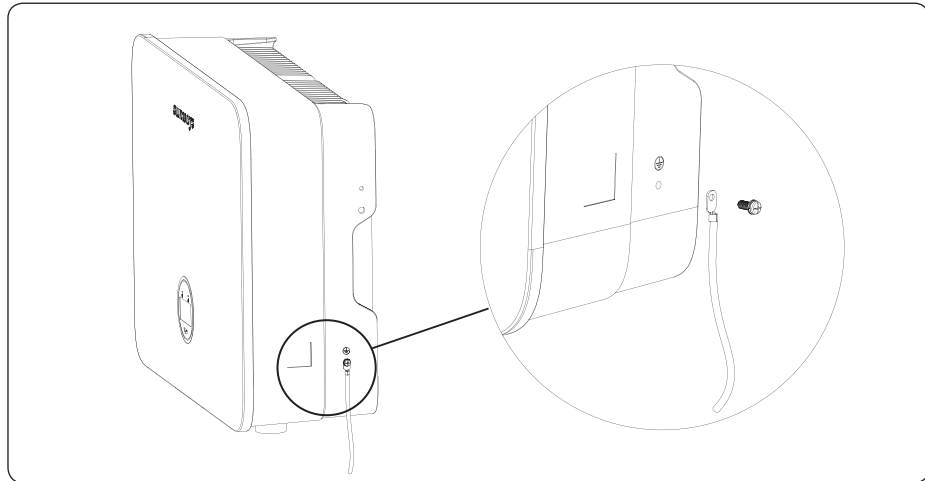

Figure 4-19 Grounding terminal connection
- 2) Fix the grounding terminal to the PE wire with a proper tool and lock the grounding terminal to the grounding hole in the lower right side of the inverter, as shown in Figure 4-19: